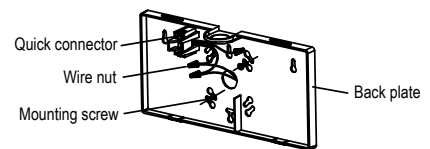

Figure 2
#### WALL MOUNT - BACK POWER FEED (FIGURE 2)
7. Connect the male battery connector to female connector on the PCBA. (Figure 2)